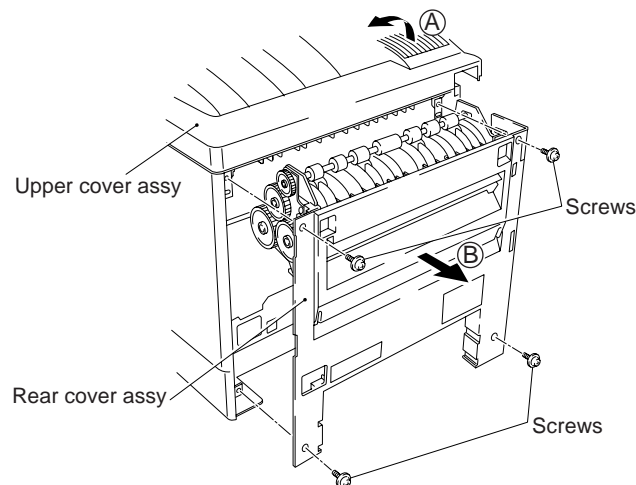

Figure 4.5
- (2) Loosen the top left screw.
- (3) Remove the upper cover assy (A) (Refer to Figure 4.5).
- (4) Remove the rear cover by pulling it rearward (B) (Refer to Figure 4.5).